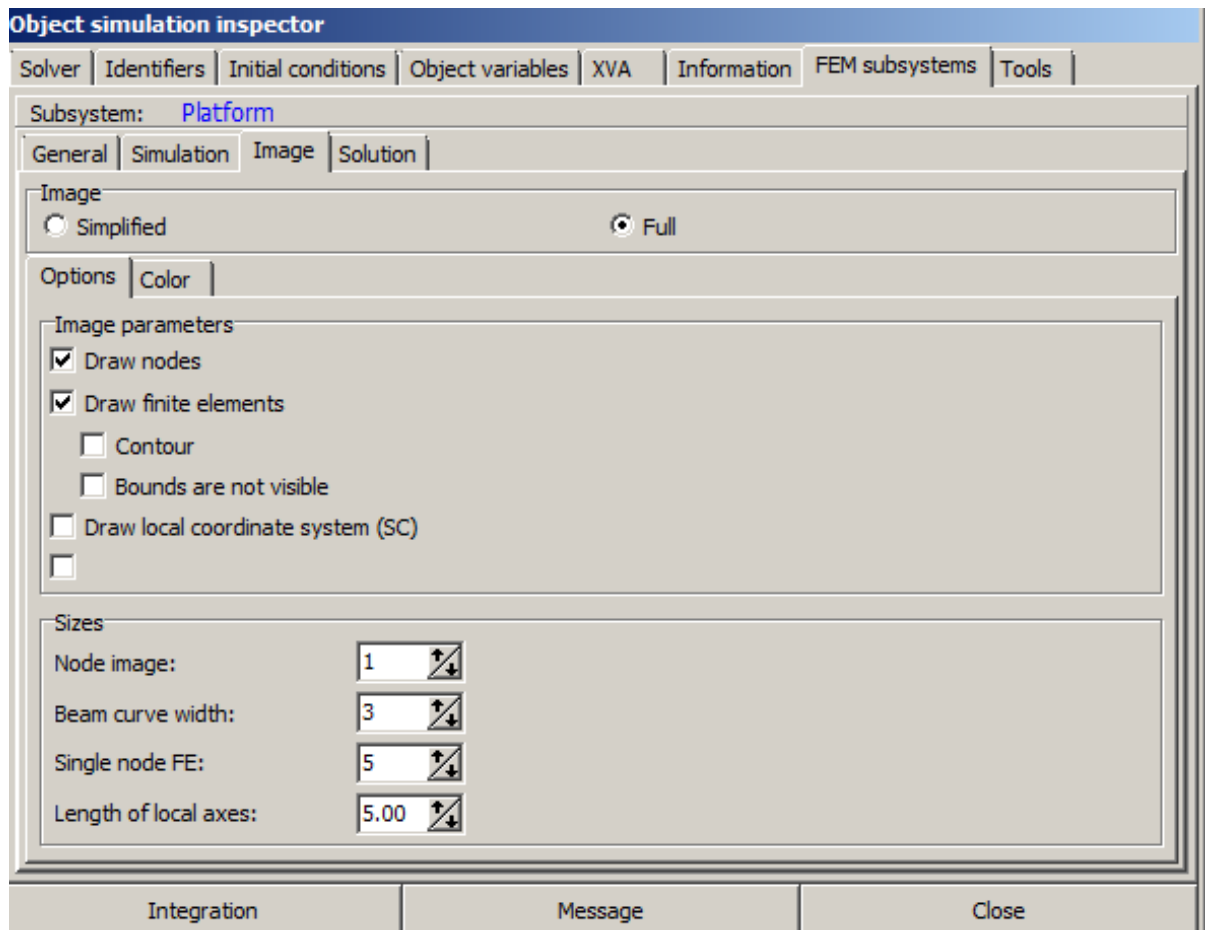

Figure 2.57.
4. Let us select some node of the FE model where we will calculate Z components of position and acceleration. If the animation window does not show nodes of FE mesh, select the **FEM subsystems | Image**. Set **Image** to **full**. Turn on the **Image | Draw nodes** check box. Set non-zero value in Node image, for example 3, see Figure 2.57.